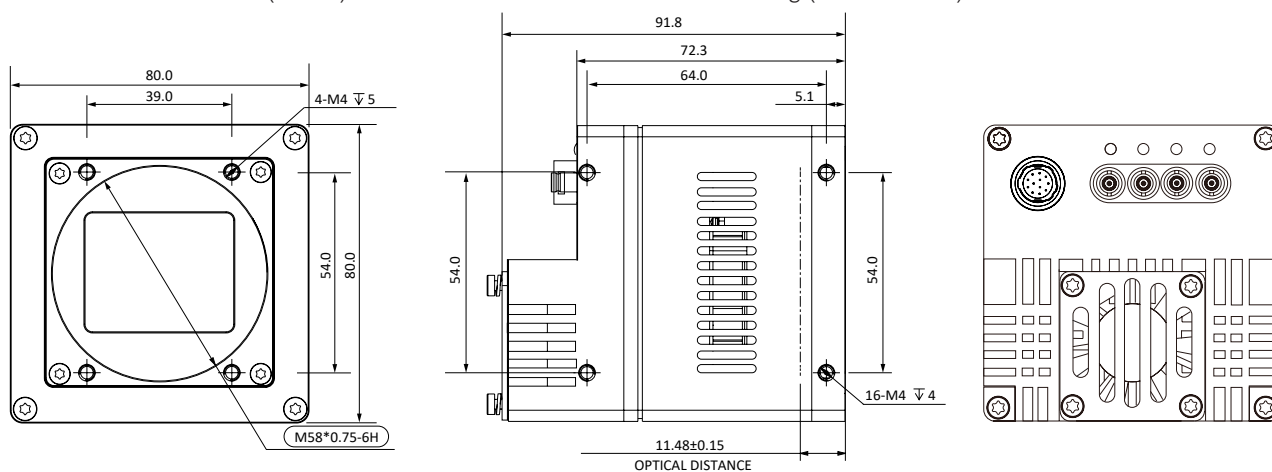

Fig. 1-6: Mechanical Dimensions (in mm) for Cameras with 80 \* 80 \* 72mm housing (M58 interface).
- Fig. 1-6: Mechanical Dimensions (in mm) for Cameras with  $80 \times 80 \times 72$ mm housing (M58 interface).